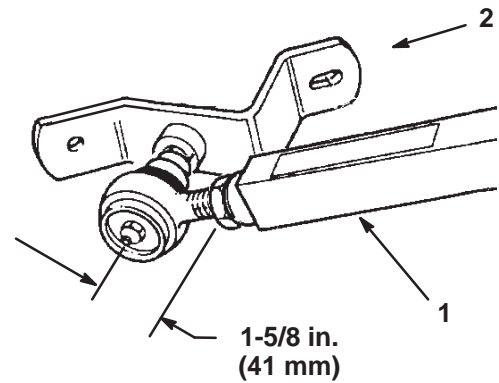

Figure 3
2. The right and left ball joints are properly adjusted when the distance from the end of the lift arm nut to the center of the ball joint grease fitting is 1-5/8 in. (41 mm) (Fig. 3 & 4).